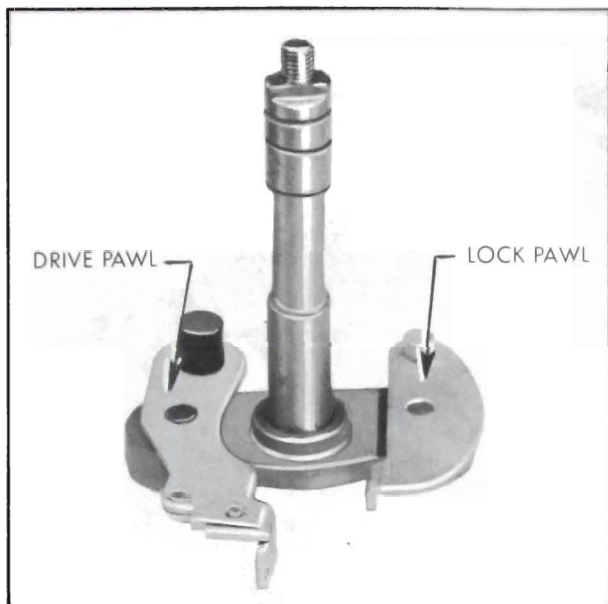

Figure 1-32—Lock and Drive Pawl Assembly
1. Assemble lock and drive pawls to the shaft and drive plate assembly as shown in Figure 1-32.
1. Gear assembly end-play is controlled by end-play washers located between the seal cap and shield. See Figure 1-32. End-play should be .006.